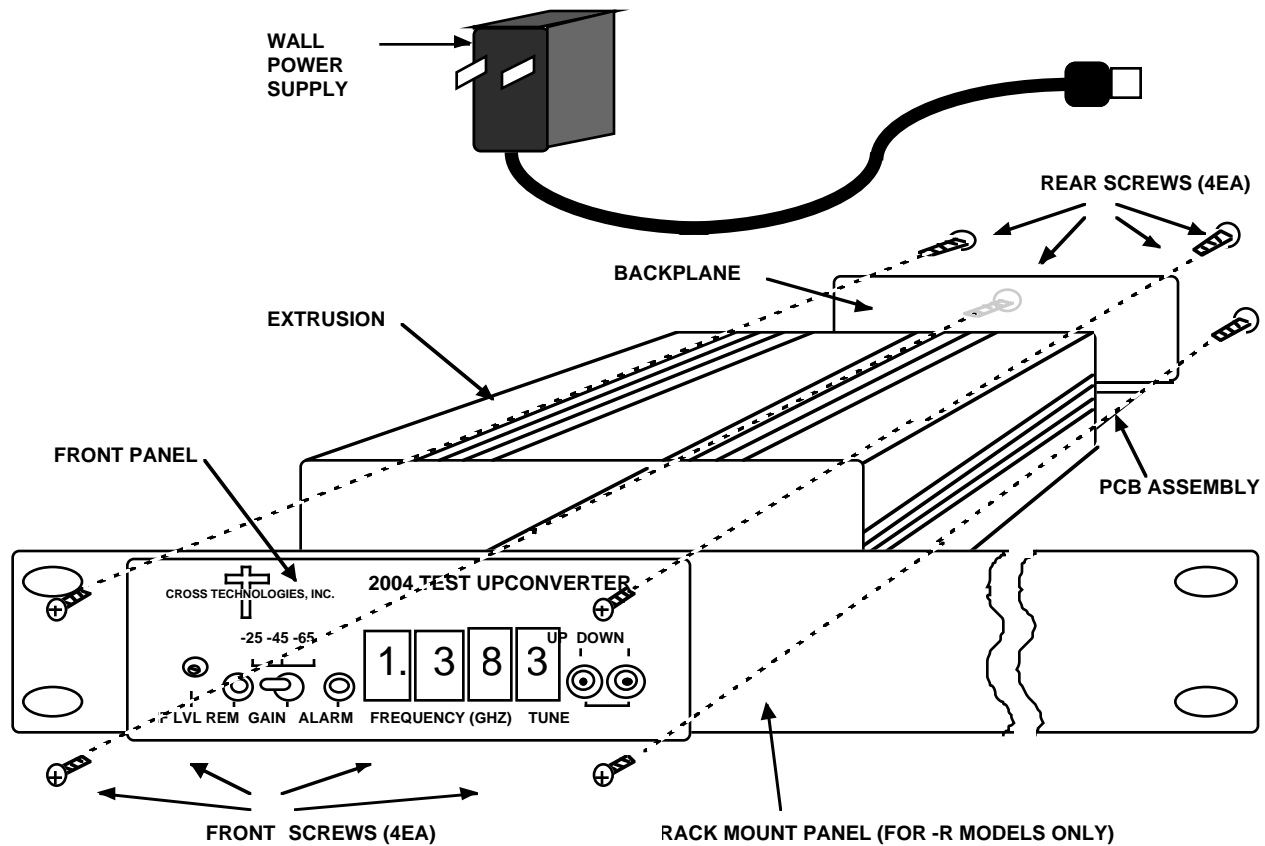
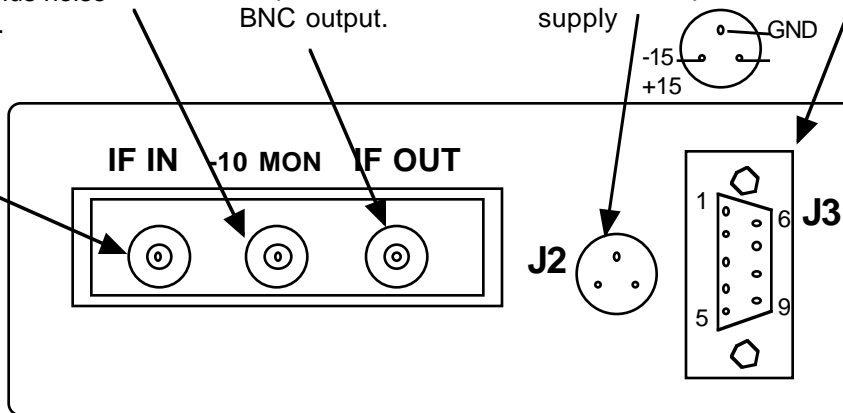

FIGURE 2.1 SERIES 2000 ASSEMBLY DRAWING
FIGURE 2.3 2007 Inputs and Outputs
2.1 Mechanical - The 2007 is packaged in an aluminum extrusion. The 2007R is mounted on a 1 3/4" X 19" panel that can be mounted to a rack using the 4 holes at the ends. The 2007 and 2007R derive $\pm 15V$ from a wall power supply. (See Figure 2.1.)
2.3 Input / Output Signals - Figure 2.3 shows the input and output signals to the 2007.
- 1.) Remove four (4) **rear panel screws** (see Figure 2.1).
- 2.) Connect the wall power supply to the 2007 and the wall power supply to 115 VAC, 60 Hz (Figure 2.1)
- 3.) Connect a -20.0 dBm 70 MHz signal to 70 MHz SIGNAL IN (Figure 2.1, Figure 2.3)
The remote control program sends commands to the 2007 through pin 3 of the DB9 connector, J3 (Figure 2.3). Pin 3 is an RS-232 serial port set to accept 8N1 formatted data. Each command sent to the 2007 consists of an instruction byte followed by one or two bytes of data. The 2007 acknowledges receiving and successfully executing each remote control command by sending an **acknowledge byte** (2400 baud, 8N1 format) through pin 2 of the DB9 connector, J3.